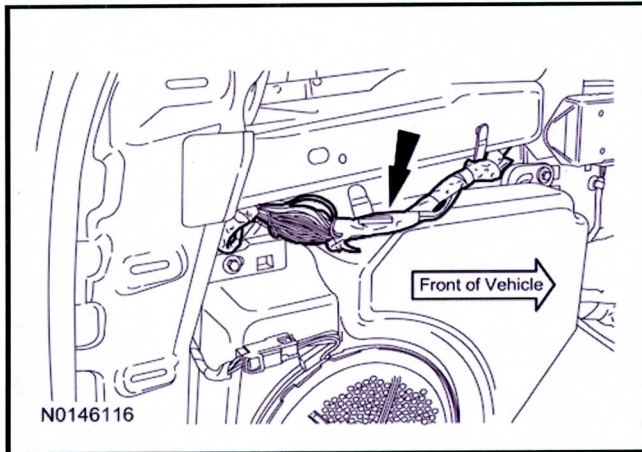

Figure 3 - Article 13-1-5
10. Locate the left interior vehicle harness. (Figure 3)